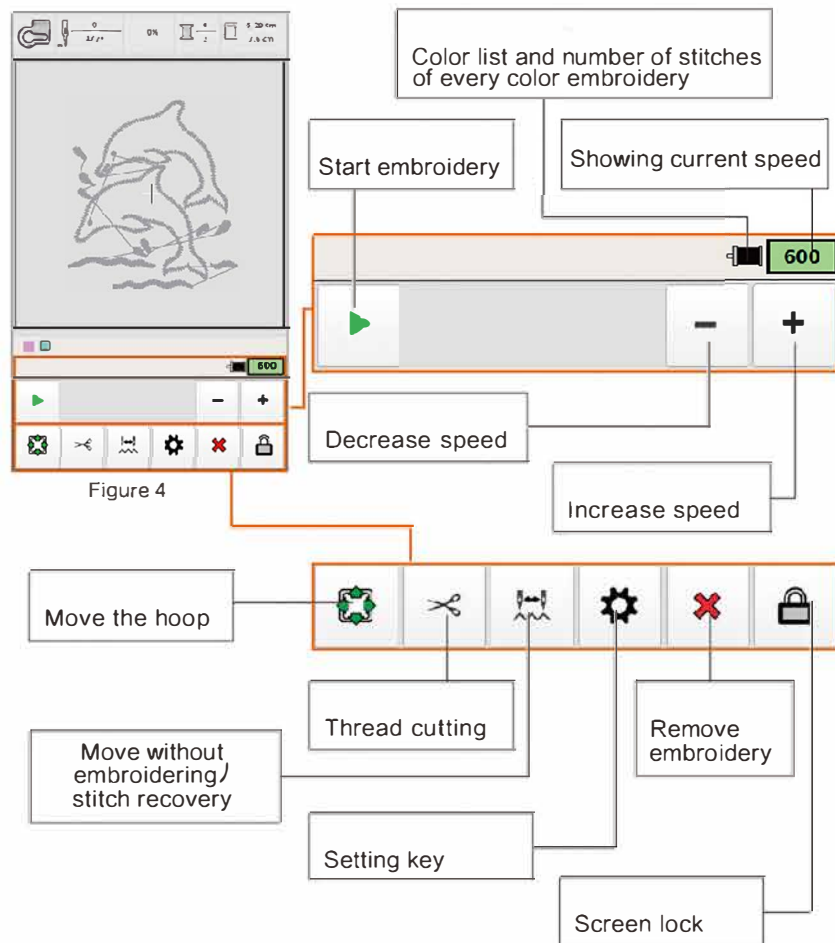

Figure 4
5. Embroidery confirmation key is to enter interface in Figure 4